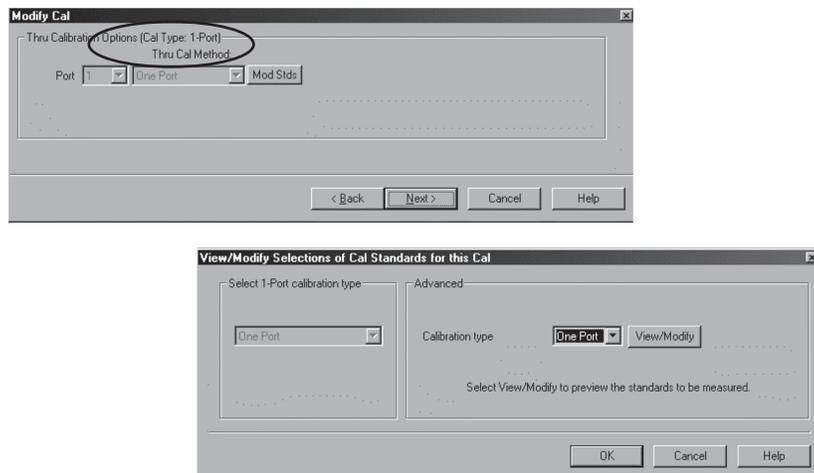

Figure 40. Viewing **Modify Cal** displays.
4. Use dropdown menu and then the scroll bar to select the DUT connectors (Figure 39, bottom). Also, use dropdown menu to select the available calibration kit based on the selected DUT connectors. Notice, the Cal Method here is simply 1-Port. Plus, if “Modify Cal” is not selected, then steps shown in Figure 40 will be skipped. Click **Next>**
5. Having selected “Modify Cal” allows you to look at the screens shown in Figure 40. However, in the case of 1-port calibrations, you are limited to SOL calibration only. Thus, clicking on “Modify Cal” does not offer you additional selection. Your Cal Type remains as One Port.